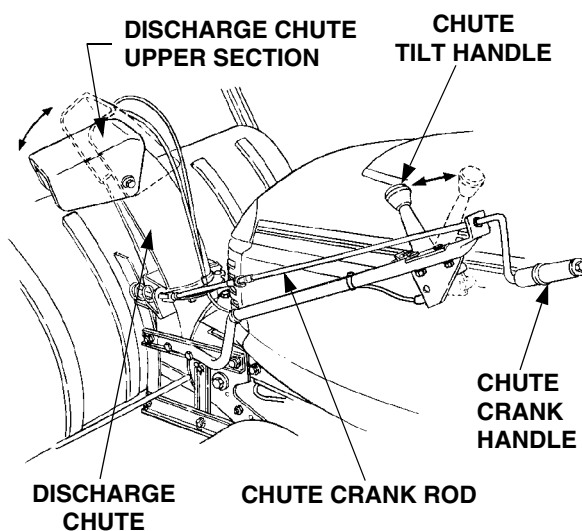

Figure 29
3. The discharge chute control crank is located on the left hand side of the snow thrower. The chute crank controls the direction in which snow is thrown. The discharge radius is 190 degrees. Turn the crank clockwise to discharge to the left and counterclockwise to discharge to the right. See Figure 29.
4. The chute tilt handle is also located on the left hand side of the snow thrower. The pivoting upper section of the discharge chute pivots downward when the tilt handle is pushed forward — decreasing the distance snow is thrown. Pulling the handle backwards pivots the upper section upward — increasing the distance snow is thrown. Refer to Figure 29.